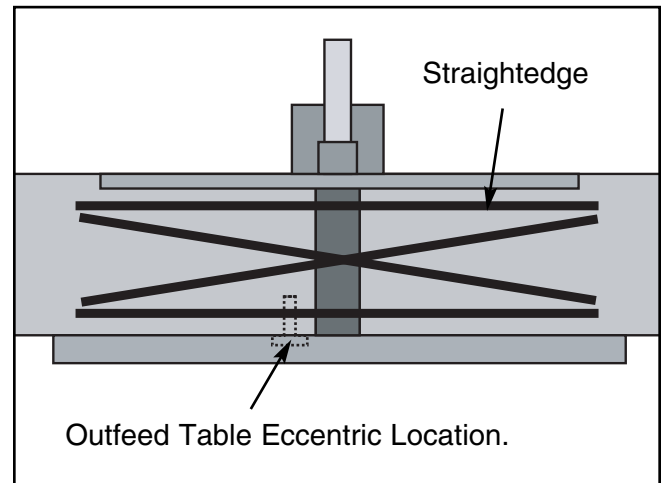

Figure 40. Straightedge positioning points.
5. Set the edge of a straightedge across the outfeed and infeed tables (**Figure 40**). The goal is to eliminate any gaps between the straightedge and the surface of the tables.